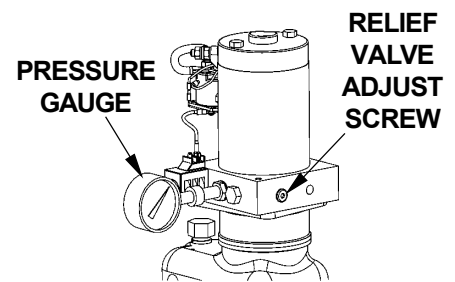

FIG. 39-2
9. With Platform on the ground, remove the pressure hose and fitting from the Pump and replace it with a 0-3000 PSI Pressure Gauge. Hold the Control switch in the "RAISE" position. Adjust the Relief Valve on the side of the Pump until the gauge shows 2800 to 3000 PSI (FIG. 39-2). Remove gauge and re-install pressure hose.